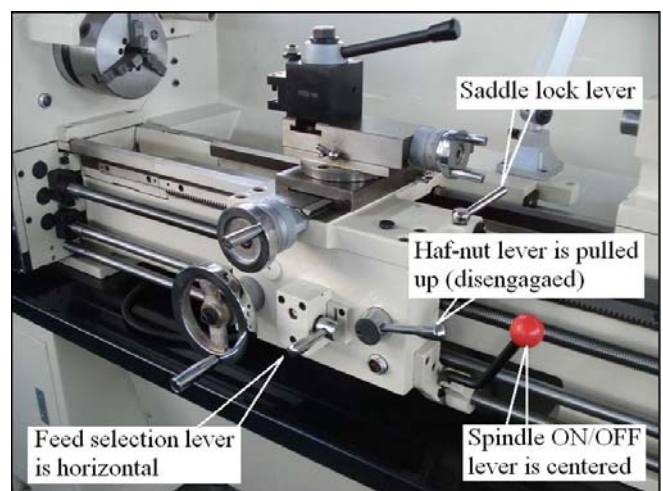

Figure 1
5. Disengage the half-nut lever and the feed selection lever (see **Figure 1**), and make sure the saddle lock is loosened to allow the lead screw or feed rod to move the apron if required.